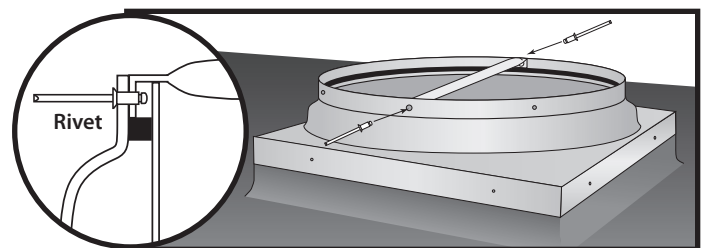

Figure 3
**Step 3** Place the head of the 3/16" rivet through the pre-drilled hole on the flashing and into the pre-drilled hole on the "L" shaped tab on the security bar. Place one rivet on each side of security bar. (see Figure 3)